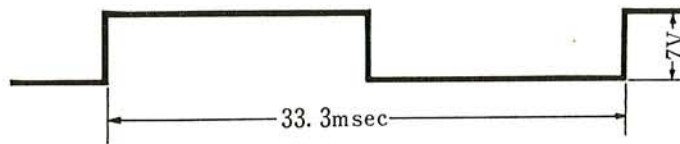

Fig. 36 Wave-form at TP202 when video signal is fed to VTR.
- B. After the adjustment item A is completed, connect the video signal to VTR and confirm the wave-form at TP202 as shown in Fig. 36.